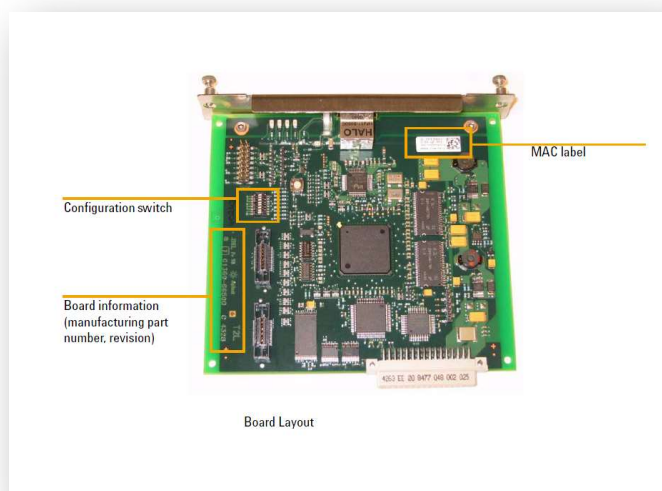

Figure 1a.
2. Set the Configuration Switch positions 5 & 6 to up. (i.e. 'on' or '1') (Please see figure 1a. for the switch location.)